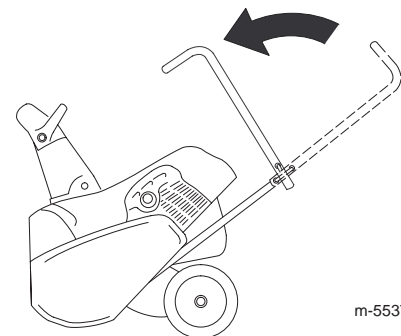

Figure 28
2. Position the upper handle as shown in Figure 28.